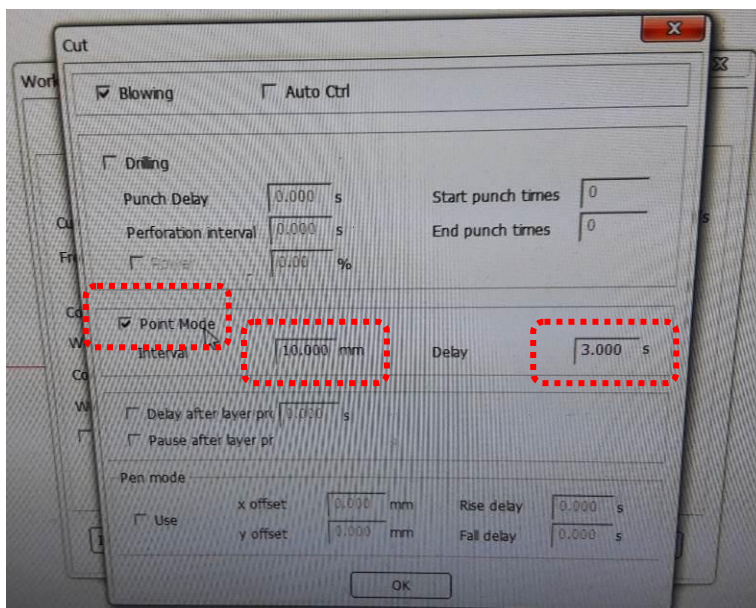

Figure 6 Cut window
- 9. Check the “Point Mode” option in Figure 6.
- 10. Setup the value of “Interval” which means the distance between each hole. ( Figure 6 )
- 11. Setup “Delay” time which means the delay time for each hole drilling. ( Figure 6 )